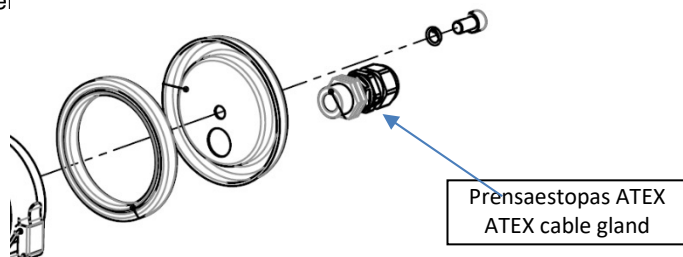

FIG 2.
- Retire the screws that close the closing cap (See fig.2). Open the cap.